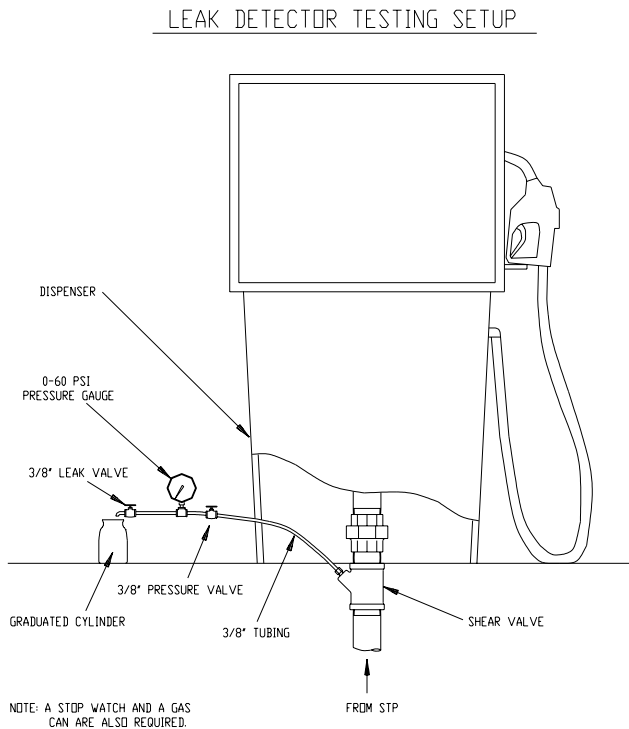

Figure 1
Note: To properly check a line leak detector the following is required: a graduated cylinder (usually graduated in milliliters) of approximately 300 ml volume, a test fixture which allows a leak of 3 GPH at 10 PSI (see Figure 1), and a stop watch or a watch with a seconds hand.
16. Turn the pump off at the load center, relieve the line pressure, and then remove the pipe plug in the shear-valve. Make adequate provision to trap any liquid that escapes to prevent environmental contamination. Install test fixture (pressure gage, leak valve and pressure valve) into the dispenser shear-valve port, see Figure 1. The test fixture will be used to introduce a 3 GPH leak @ 10 PSI.